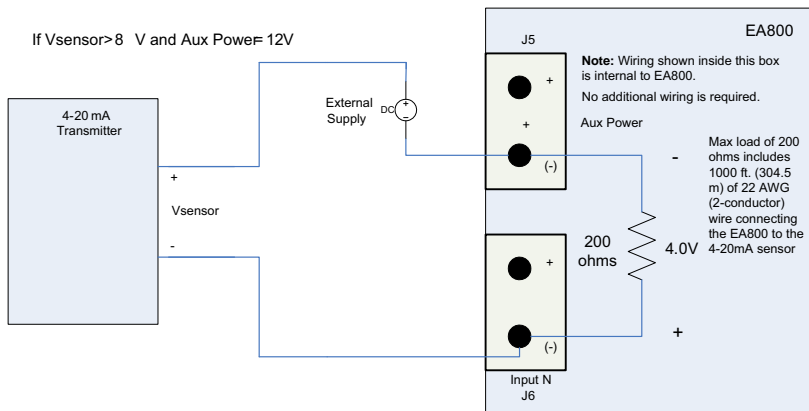

Figure 7 4-20mA Sensor Wiring Diagram - External Power Supply
Figure 7 shows an example of the loop circuit for a 4-20mA sensor whose minimum operating voltage is greater than 8V when connected to an EA800 console that is powered with 12VDC.
- If the EA800-ip is connected to a 12VDC power supply, use of the sensor in this example requires an external power supply of at least 14V as shown in Figure 7.